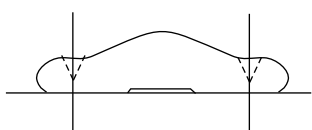

Fig. 2
2. Secure the molding dummy to the mould with nails provided (Fig.2).